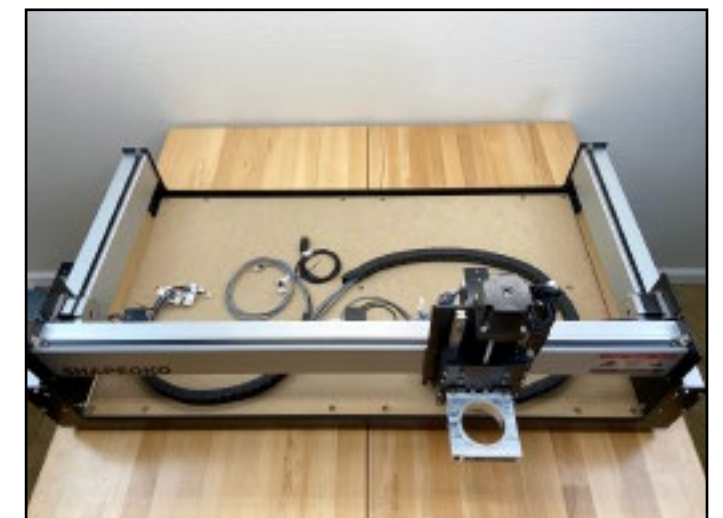

Figure 6-10
2. Move the X-rail all the way to the **FRONT**, and move the Z-Plus 8-10 inches from the Y2-carriage as shown in **Figure 6-10**.